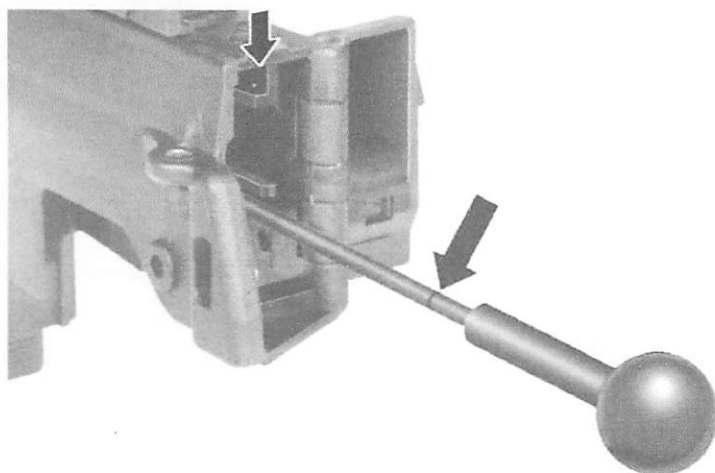

Fig. 36 Check of barrel wear
- ⇒ Introduce rod into the barrel from the rear, through the receiver, and read off depth of penetration at the rear edge of the receiver (Fig. 36/Arrow).